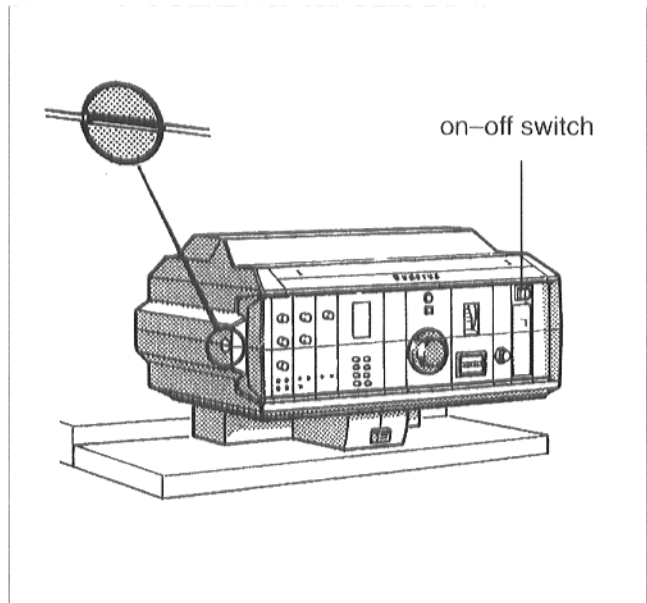

Fig. 32
- Put the screw slot of the transparent cover of the control panel (Fig. 32) into a horizontal position, e.g. with a coin. Remove the transparent cover toward the front.
- Put the on-off switch (Fig. 32) on the control panel into position 0 (OFF).